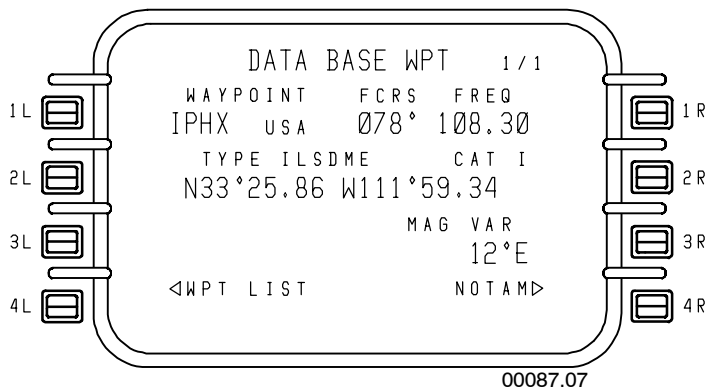

Figure 6-30
- **DATA BASE WPT 1/1** – Figure 6-30 displays the following data for instrument landing systems: